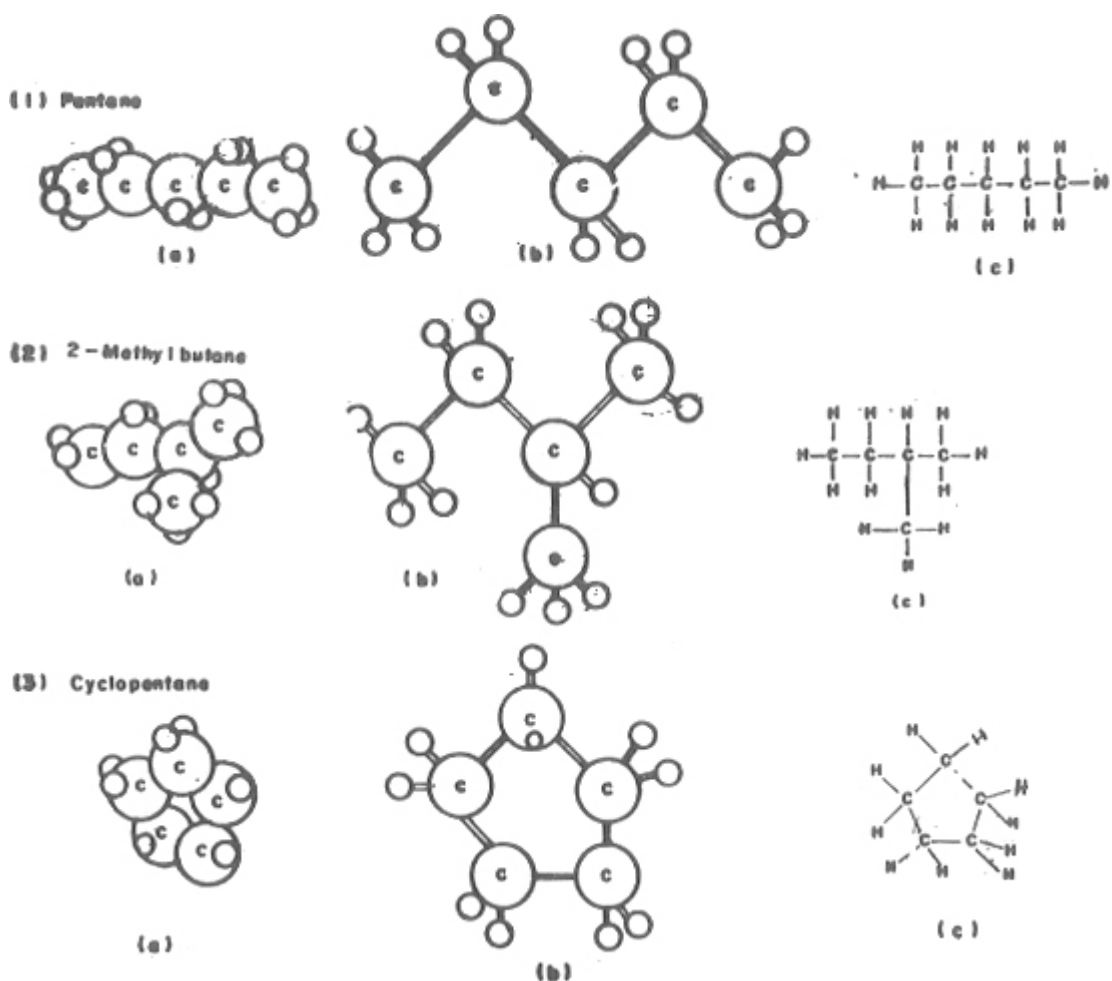

Figure 13.11 Structures of a C₅ hydrocarbon (1. straight chain; 2. branched chain; 3. cyclic)
3. The carbon atoms may form a ring as in cyclic alkanes. Examples are shown in Figure 13.11.